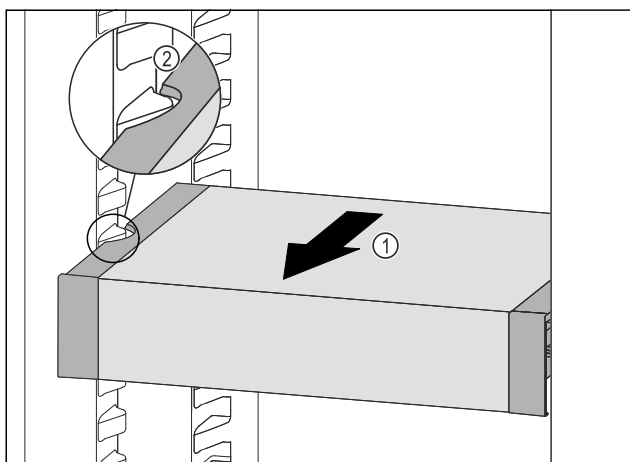

Fig. 200
- Pull VarioSafe forwards Fig. 200 (1) until the recesses in the side of the VarioSafe are at the level of the support rib in the fridge section. Fig. 200 (2)